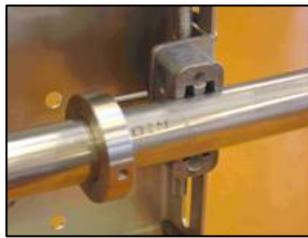

Fig. 2.11 Position memory.
- 9) Insert the pin of the position memory ring (Fig. 2.11) into the hole in the clamp and tighten the stop screw. If the sensor is removed for maintenance the memory ring ensures that the sensor head is positioned exactly in the same position as before the removal. Adapters for PosiEye installations are available.